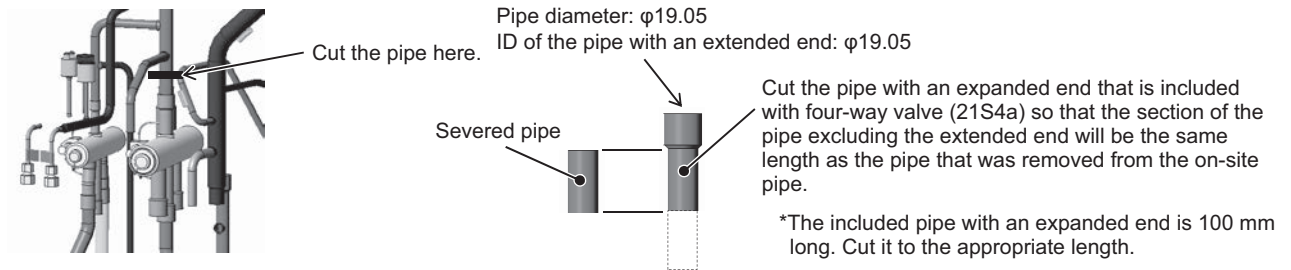

Figure 16
- (16A) To make it easier to connect four-way valve (21S4a), cut the pipe end below the raised hole (cut off the section covered with brazing filler) on the pipe with a pipe cutter. Cut the pipe with an expanded end that is included with four-way valve (21S4a) to the same length as the pipe that was removed from the on-site pipe. (See Figure 16.)